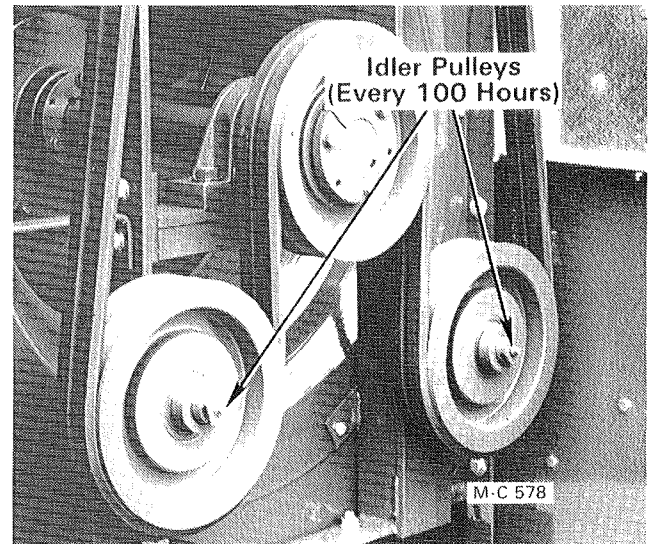

Figure 35 - PTO Drive
6. **All Model 675B and 975B** - Lubricate the fan drive belt idler pulleys, see Figure 35.